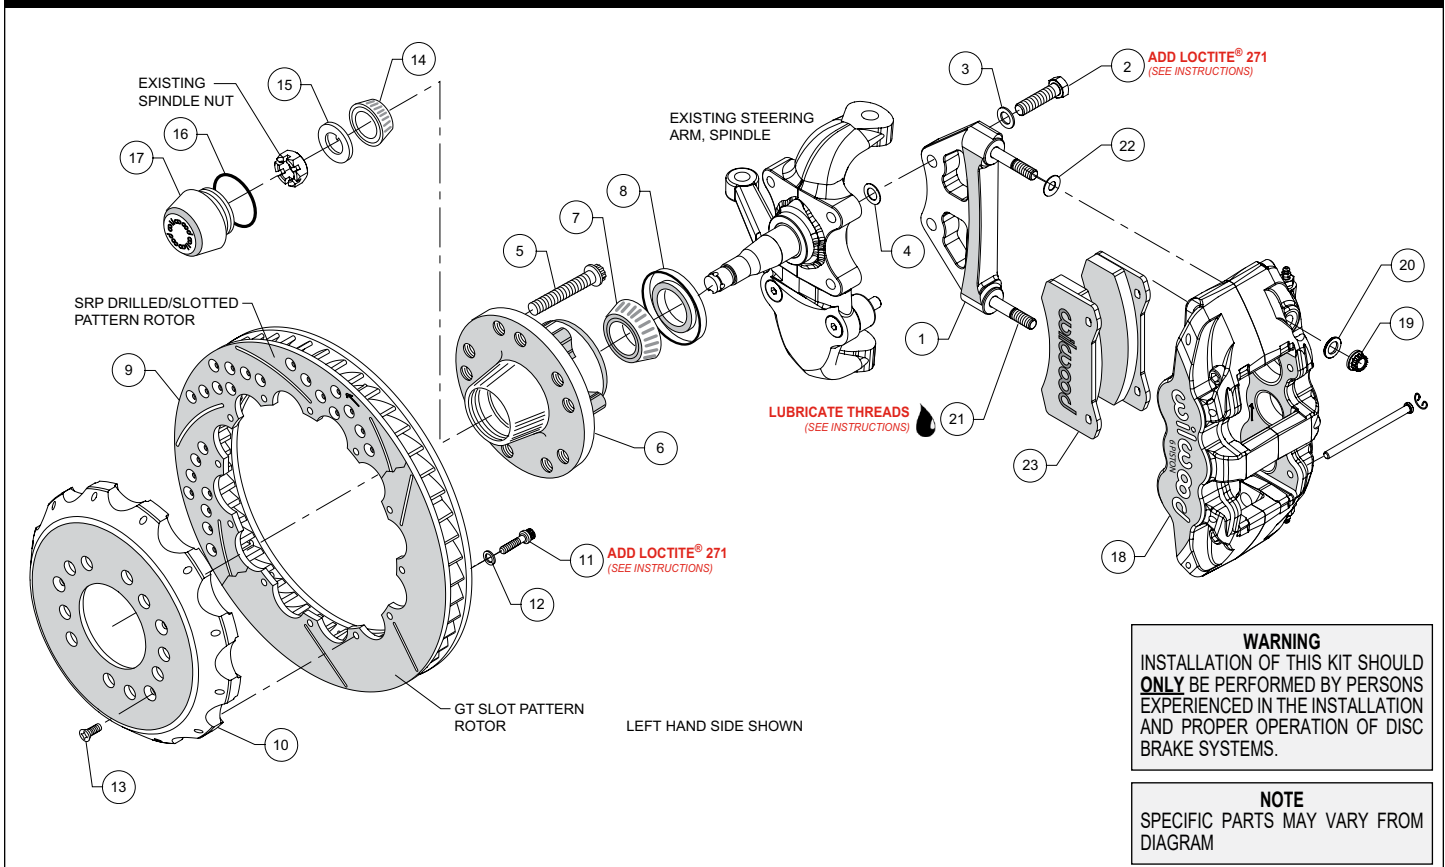
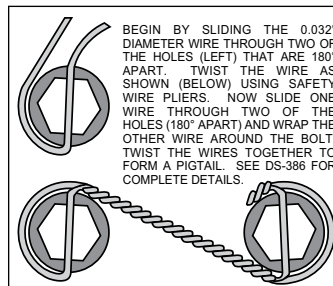

Figure 1. Typical Installation Configuration
Figure 3. Safety Wire Diagram
NOTE: Numbers in parenthesis refer to the parts list, and Figure 1 on the preceding pages.
- The caliper mount bracket (1) should initially be installed with clean, dry threads on the mounting bolts. Orient the bracket as shown in Figure 1, and install using bolts (2) and washers (3). Initially place one .032" thick shim (4) on each bolt between the bracket and upright, Figure 1 and Photo 1. Temporarily tighten the mounting bolts. **NOTE:** The bracket must fit squarely against the mount bosses on the upright. Inspect for interference from casting irregularities, machining ridges, burrs, etc. Later, after the caliper alignment has been checked, the mount bolts will be secured using red *Loctite*® 271.
- Pack the large inner bearing cone (7) with high temperature disc brake bearing grease (available from your local auto parts store) and install into the backside of the hub (6), Photo 3.
- Install the grease seal (8) by pressing into the backside of the hub (6), flush with the end of the hub, Photo 3.
- Orient the rotor (9) and the hat (10) as shown in Figure 1 and Photo 4. Attach rotor to hat using bolts (11) and washers (12). Apply red *Loctite*® 271 to the bolt threads and torque to 155 in-lb using a criss-cross pattern. For an added measure of security, the bolts may be safety wired using standard 0.032 inch diameter stainless steel safety wire as shown in Figure 3. Refer to Wilwood's data sheet DS-386 (available at www.wilwood.com/Pdf/DataSheets/ds386.pdf) for complete safety wire installation instructions.
- NOTE:** This kit contains distinct right and left hand calipers that must be mounted in a specific direction, as described below. Lubricate the caliper mounting studs (21) with lightweight oil. Initially place one .035" thick shim (22) on each stud between the caliper and the bracket, as shown in Figure 1 and Photo 7. Mount the caliper (18) onto the bracket (1) using lock nuts (19) and washers (20), Figure 1. Ensure that the caliper is mounted so the largest pistons are at the rotor exit end of the caliper, in relation to the direction of rotor rotation. Temporarily tighten the lock nuts and view the rotor through the top opening of the caliper. The rotor should be centered in the caliper, Photo 8. If not, adjust by adding or subtracting shims (4) between the bracket and the upright. Always use the same amount of shims on each of the two mounting bolts. Once the caliper alignment is correct, remove the bracket mounting bolts (2) one at a time, apply red Loctite® 271 to the threads, and torque to 90 ft-lb.
- Remove the caliper (18), then remove the two pad retaining pins by carefully popping out the pin retaining clips and sliding out the pins. Insert the brake pads (23) into the caliper from the bottom, Figure 1 and Photo 9. With the friction material facing the rotor, secure the brake pads in place with the pad retaining pins and clips, Photo 10. Reinstall the caliper onto the caliper mounting bracket and temporarily tighten the lock nuts (19). Check that the top of the brake pad is flush with the outside diameter of the rotor, Photo 11. If not, adjust by adding or subtracting shims (22) between the caliper and the bracket. After the caliper pad height is set, torque the caliper lock nuts (19) to 47 ft-lb.